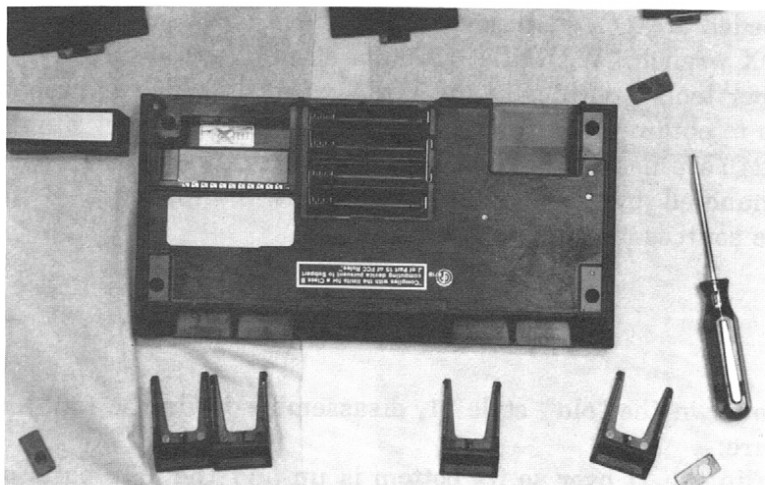

Figure 9-6. The 71's back just before opening. Knowing which brass screws to remove is the key.
2) With the flathead screwdriver, carefully peel off the three remaining rubber feet. Fig. 9-6 shows the five visible TORX screws, one in each corner and one along the top center.